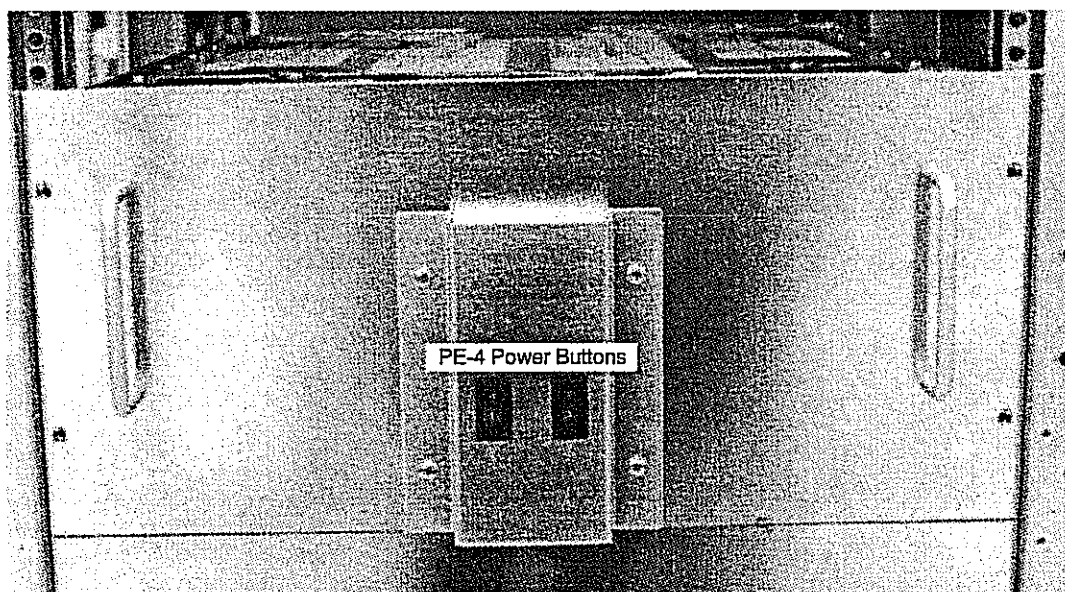

Figure 7-53. PE-4 Drawer
1. Shut off the power to the PE-4 drawer by moving each of the 0/1 buttons to the 0 position. Refer to Figure 7-53.
2. Remove the four PE-4 drawer-retaining screws that are located in each corner of the drawer. Refer to Figure 7-53.